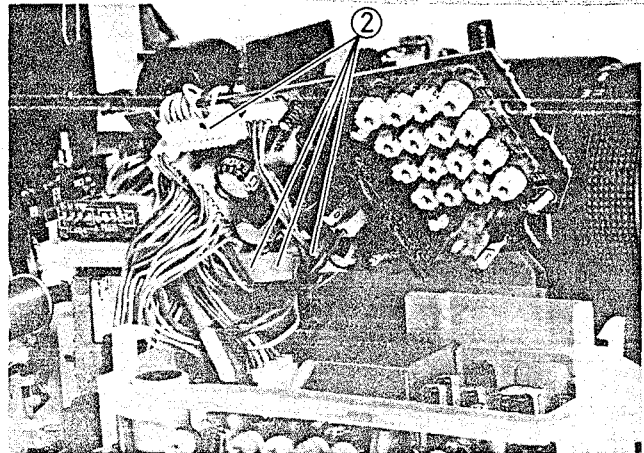

Fig. 2-28 Regulator Circuit Board Removal
Regulator Circuit Board Removal (Fig. 2-28)
2. Disconnect four (4) connectors (CN024, CN1505, CN1508, CN1607) on the regulator circuit board. (See Fig. 2-28)